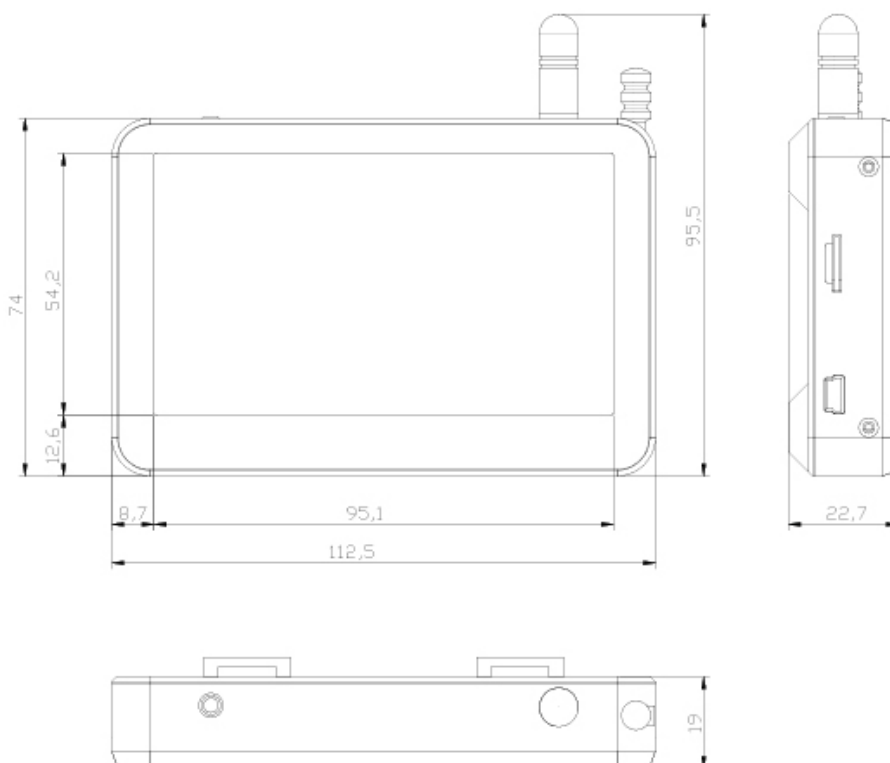

**Figure 3**
Digital readout device (PDA) dimensions, mm	see Fig. 3
Figure 3 indicates:
- Turn the PDA on by pressing the button (1), Figure 3. The PDA screen will show the main program window containing: main menu; indicators of PDA and laser module charging degree; indicator of Bluetooth connection.